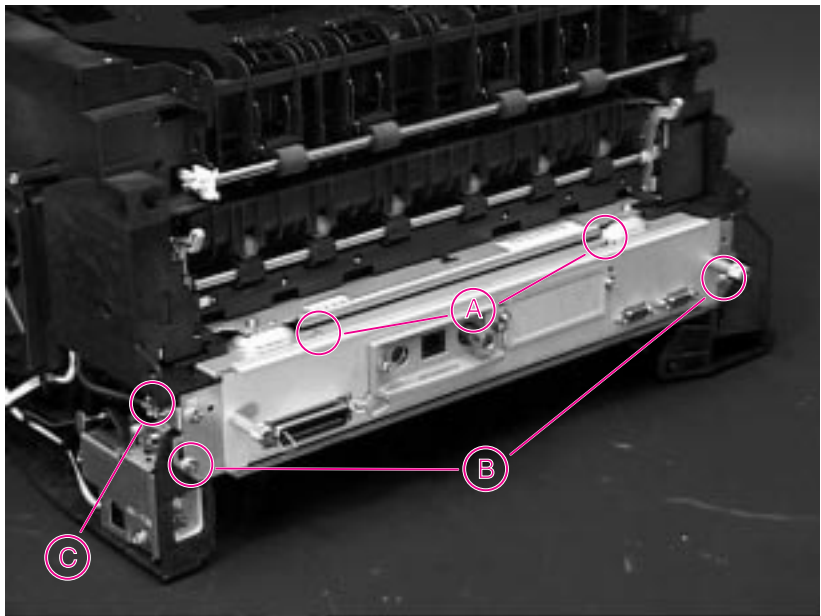

Figure 6-38 DC Controller Assembly (rear view of printer)
- 4 Remove five screws on the back side of the chassis (Figure 6-38). Two machine screws (A) are located on the top surface of the metal housing, one machine screw (C) has a lock washer and a ground wire, and two self-tapping screws (B) are located at the bottom of the DC Controller Assembly.